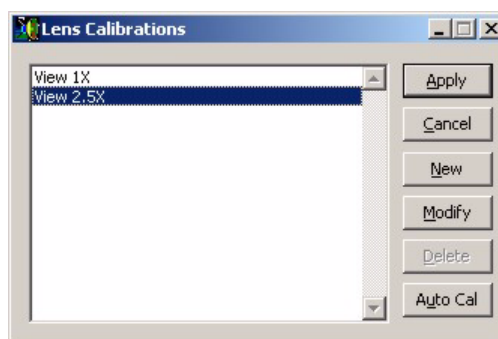

Figure 8-14 Lens Calibrations Window
6. Select **Setup / Calibration** in the VMS main menu to display the Lens Calibrations window (see Figure 8-14).
12. In the Lens Calibrations window (see Figure 8-14), click **Apply** to apply the changes.